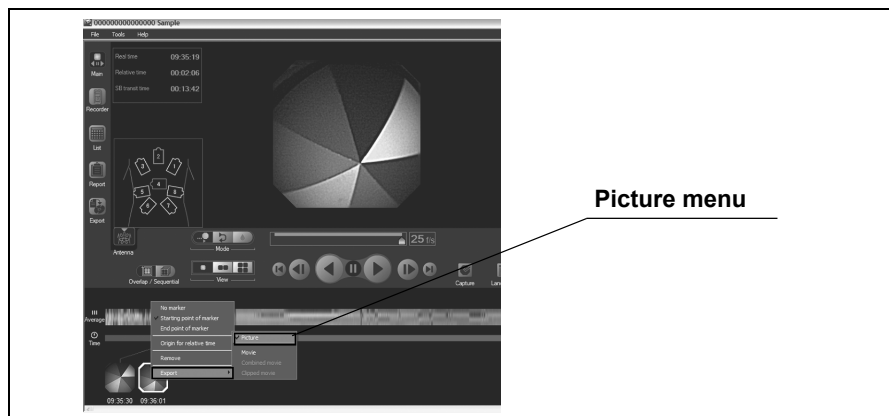

Figure 6.110
4. To create pictures, right-click on one of the selected thumbnails and select “Export” and then “Picture” from the context menu (see Figure 6.110).